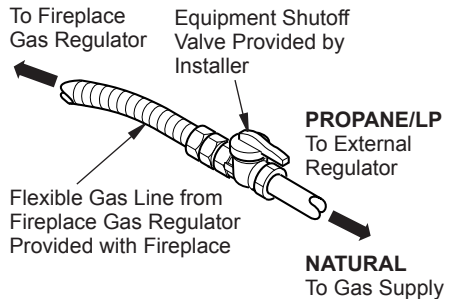

Figure 21 - Attaching Flexible Gas Line to Equipment Shutoff Valve
NOTICE: Most building codes do not permit concealed gas connections. A flexible gas line is provided to allow accessibility from the fireplace (see Figure 21). The flexible gas supply line connection to the equipment shutoff valve should be accessible.
4. Apply pipe joint sealant lightly to male threads of gas connector attached to flexible gas line/equipment shutoff valve (see Figure 21).